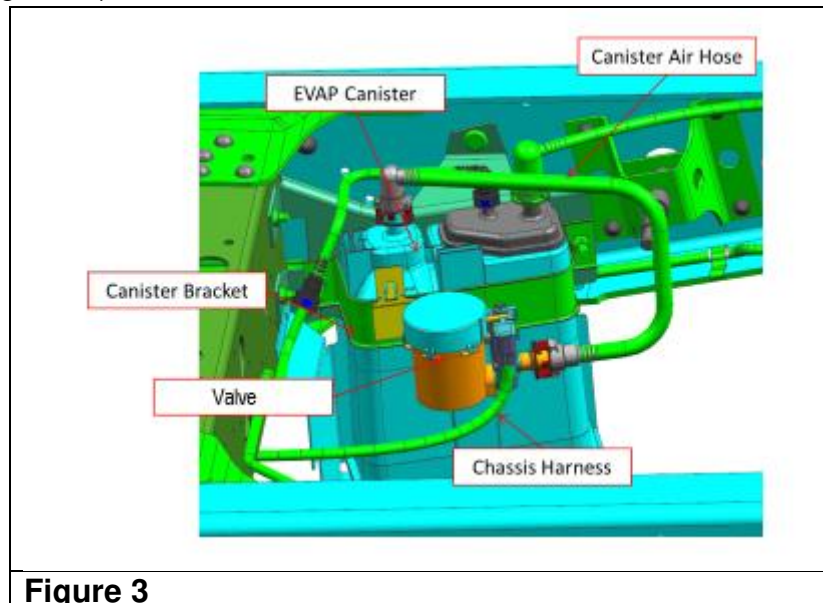

Figure 3
2. Disconnect the Canister Air Hose from the Canister Assembly and the Valve. (See Figure 3.) Discard the hose.